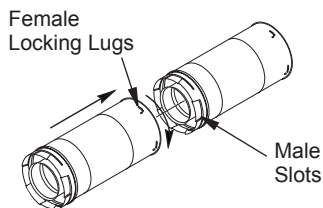

Figure 8 - Vent Pipe Connections
Twist-Lock Procedure: Female ends of pipes have locking lugs (indentations). These lugs will slide straight into matching slots on male ends of adjacent pipes. Push pipe sections together and twist one section clockwise approximately one-quarter turn until sections are fully locked (see Figure 8).
2. Assemble the desired lengths of pipe and elbows necessary to reach from fireplace flue up through firestop. Be sure all pipe and elbow connections are fully twist-locked (see Figure 8, page 10).